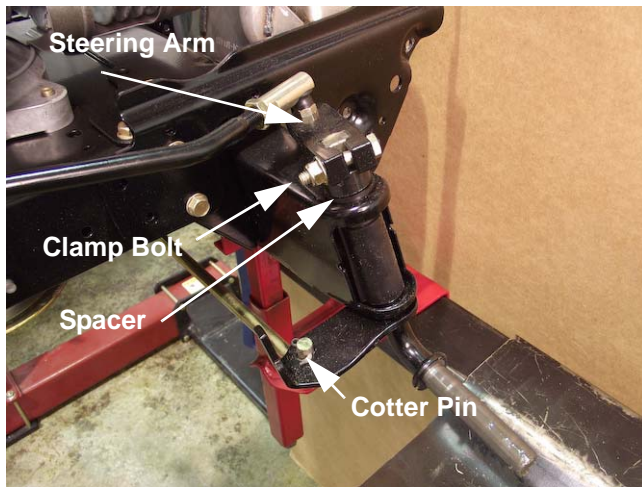

Figure 3.5
3. Remove the cotter pin that fastens the fixed tie rod to the axle. See Figure 3.5.